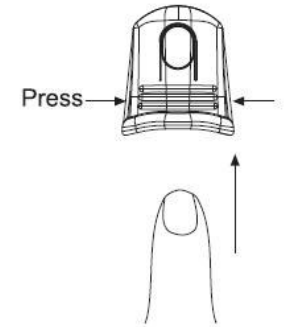

Figure 6
- ❑ Gently place a finger into the elastic thimble (Figure 6) so that the nailbed figure is facing in the upward direction. Slightly press on the thimble sides to ease the finger inside.